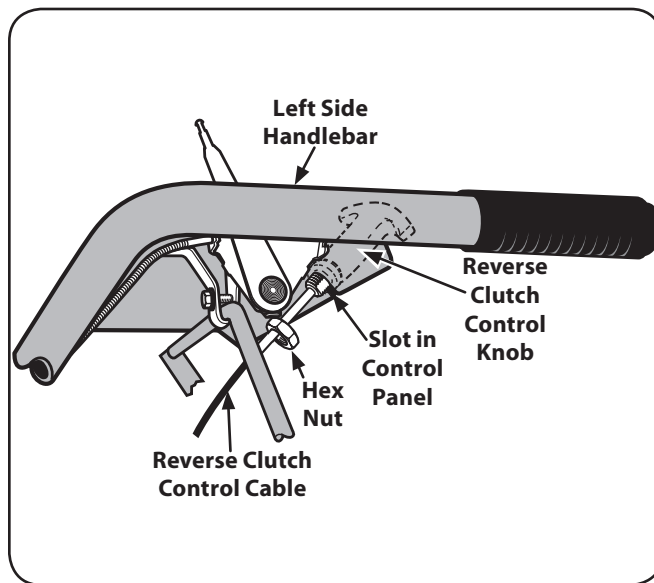

**Figure 3-4**
9. To remove the tiller from its shipping platform, first carefully unwrap the wheel gear cable with the attached lever from around the chassis. Move the Wheel Gear Lever to the DISENGAGE position, this allows the wheels to rotate freely. See Fig. 3-4. Use the handlebars to roll the tiller off the platform.